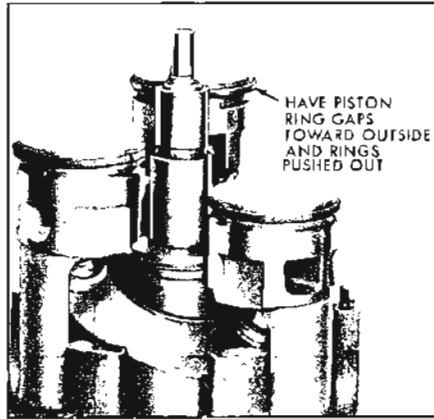

Figure 11-141—Pistons Positioned in "Stair Step" Arrangement
5. Rotate shaft to position pistons in a "stair step" arrangement. See Figure 11-141. Position piston ring gaps toward outside of cylinder. Place rear half cylinder over shaft and start pistons into cylinder bores.